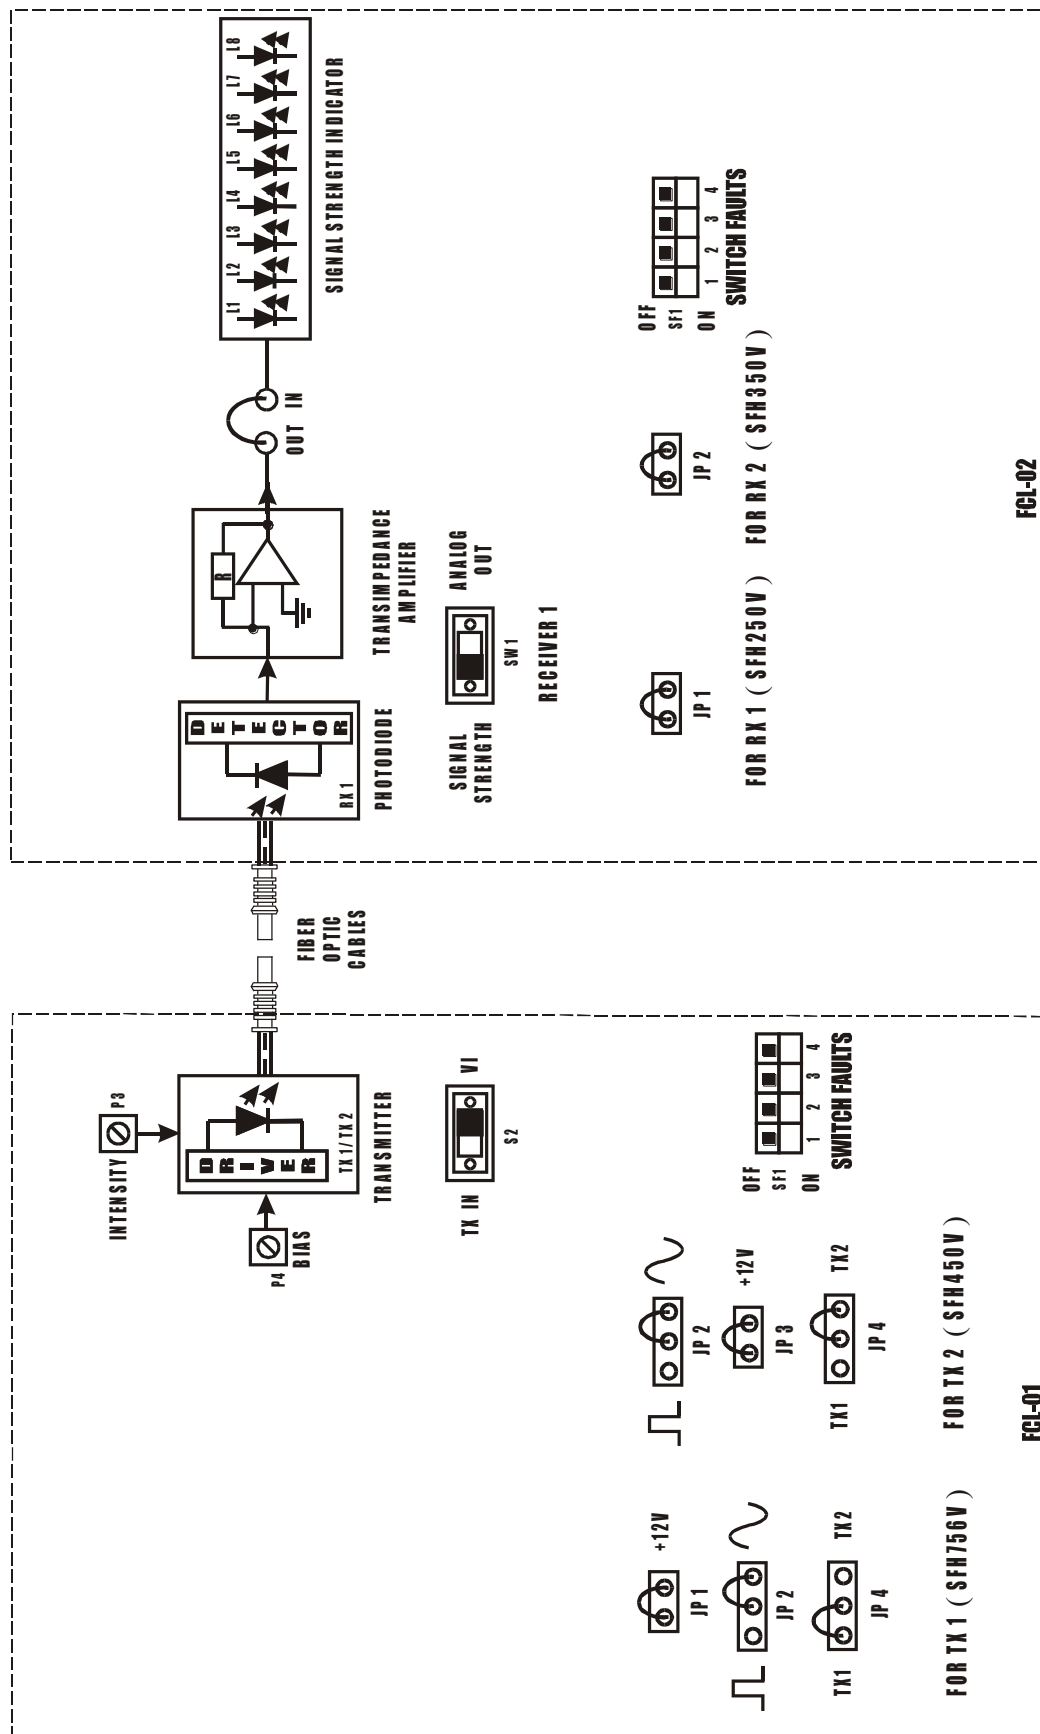

FIG. 4.1 BLOCK DIAGRAM FOR FIBER OPTIC REFLECTION SENSOR
- Make connections as shown in fig.4.1. Connect the power supply cables with proper polarity to FCL-01 & FCL-02 Kits. While connecting this, ensure that the power supply is OFF.
- Keep the jumpers **JP1**, **JP2**, **JP3** & **JP4** on FCL-01 as shown in fig.4.1.
- Keep the jumpers **JP1** & **JP2** on FCL-02 as shown in fig.4.1.